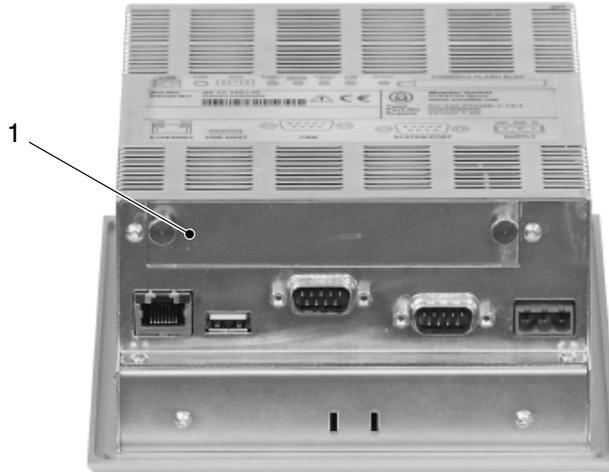

Fig. B-4
1. Unscrew the cover (1, Fig. B-4) and place aside for later use, or unscrew and extract the old communication assembly.